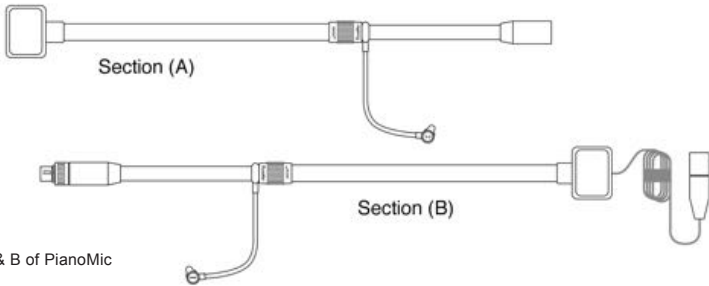

Figure 1-A
1. Remove the two PianoMic™ telescoping bars from the case. Notice that on each of the two telescoping bars, there is a special XLR type connector. There is a rotating collar next to the special XLR type connector on the telescoping bar that has a cable coming out of one end, (see Section B in Fig 1-A).